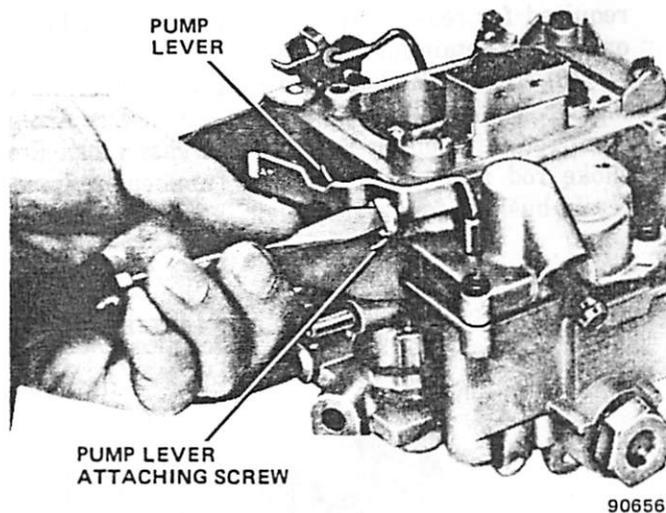

Fig. 1J-67 Carburetor Model E2SE—Pump Lever Screw Removal
(1) If clip is used to secure pump rod, remove clip and remove pump rod from hole in pump lever.
(2) If clip is **not** used to secure pump rod (clipless design), remove pump lever retaining screw and washer from air horn (fig. 1J-67). Rotate pump lever to remove from pump rod.